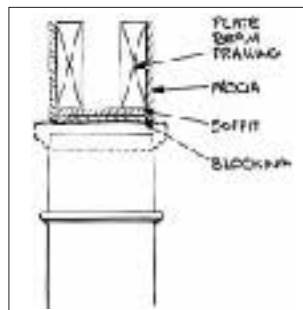

Figure 3. Blocking is used to improve load transfer between the roof and the capital.
1) Fill the slightly recessed space at the soffit with solid wood blocking. This transfers the load from above directly to the capital and keeps the edge of the fascia boards from being crushed (see Figure 3).